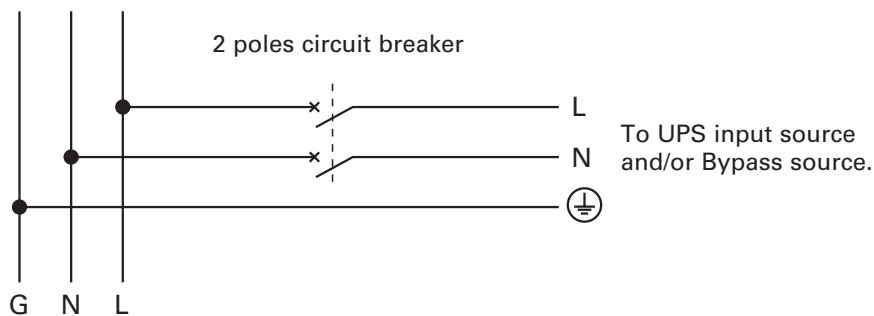

Figure 8. Upstream protection.
1. Recommended upstream protection (*see figure 8*)